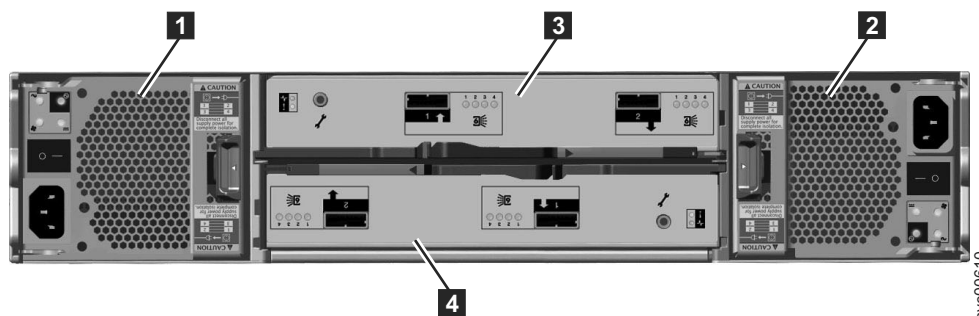

Figure 10. Rear view of a model 2076-212 or a model 2076-224 expansion enclosure
Figure 10 shows the rear view of an expansion enclosure and identifies the location of the power supply units and the canisters. The ports and their use are described later in this section.
- Two canisters are housed in the middle of the enclosure. Each canister is known as an expansion canister. The upper canister, as shown in Figure 10, is canister **3**, and the lower canister is canister **4**. Canister 3 is top side up, and canister 4 is inverted, or top side down.